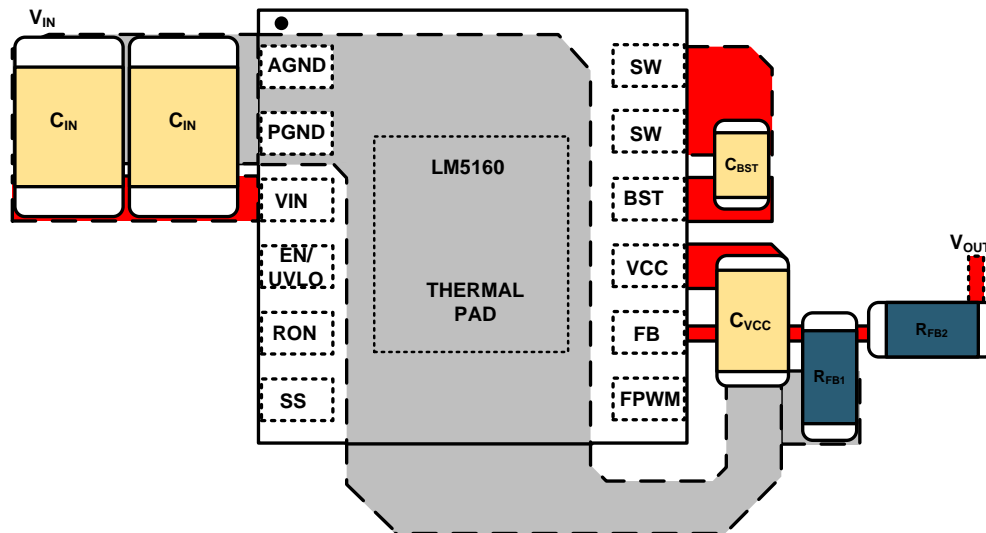

Figure 36. Placement of Bypass Capacitors
- C_{IN} : The loop consisting of input capacitor (C_{IN}), VIN pin and PGND pin carries the switching current. The input capacitor must be placed close to the IC, directly across VIN and PGND pins, and the connections to these two pins must be direct to minimize the switching power loop area. In general, it is not possible to place all of input capacitances near the IC. A good layout practice includes placing the bulk capacitor(s) as close as possible to the VIN pin (see Figure 36).
- C_{VCC} and C_{BST} : The VCC and bootstrap (BST) bypass capacitors supply switching currents to the high-side and low-side gate drivers. These two capacitors must also be placed as close to the IC as possible, and the connecting trace length and loop area must be minimized (see Figure 36).